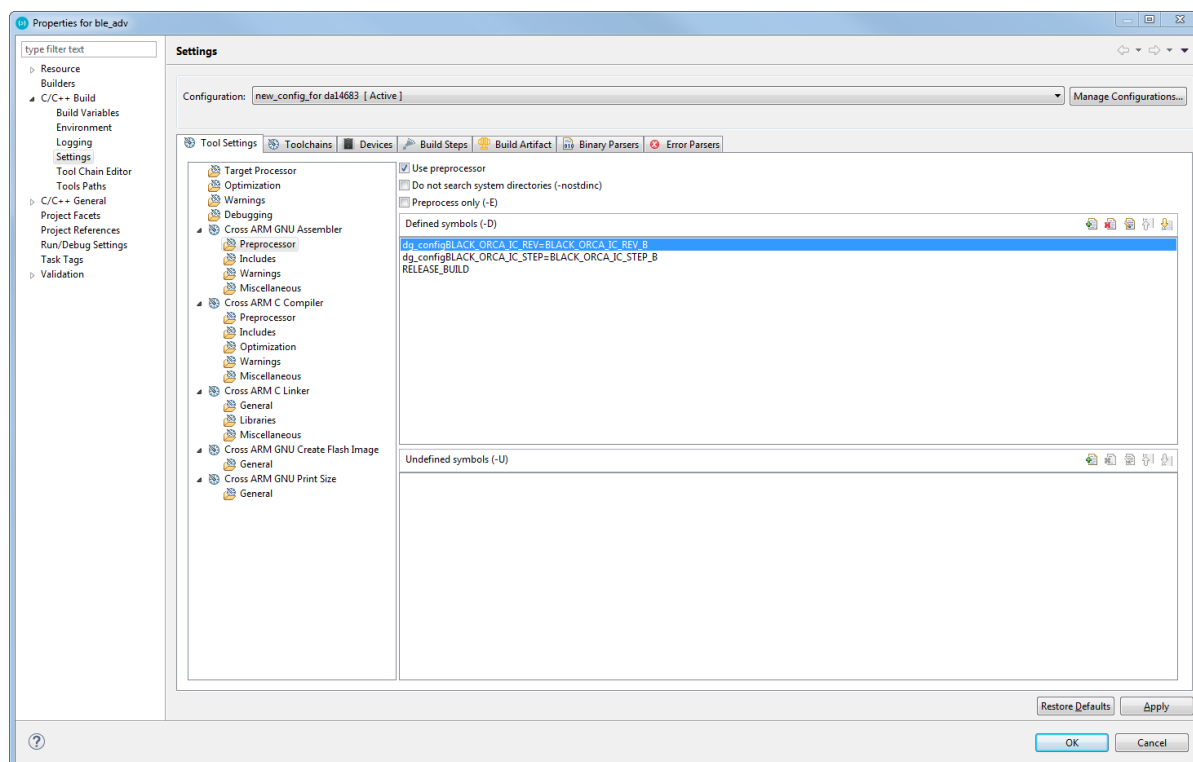
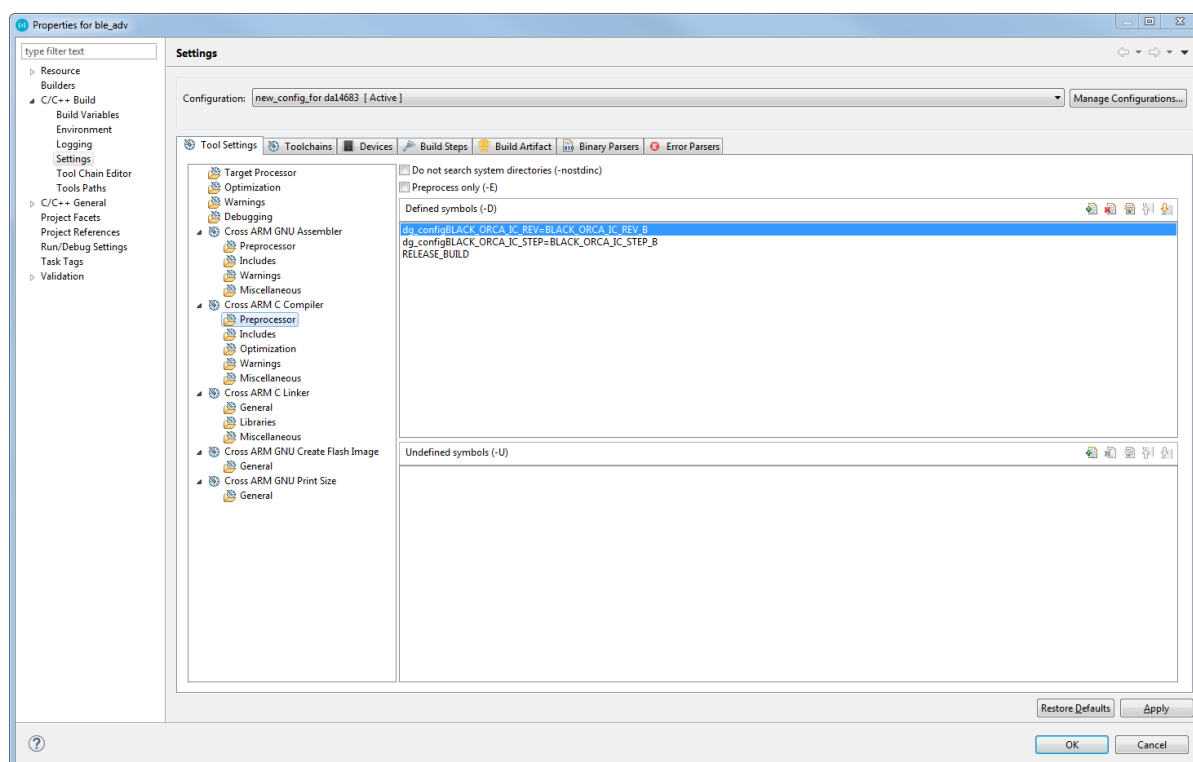

Figure 5: Edit assembly defined symbols
Figure 6: Edit compiler defined symbols
- Make sure the new configuration is selected at the top of the window. In the "**C/C++ Build/Settings**" area, edit the preprocessor setting for both **Cross ARM GNU assembler** (Figure 5) and **Cross ARM C Compiler** (Figure 6). You should edit the IC_REV and IC_STEP to reflect the following values: